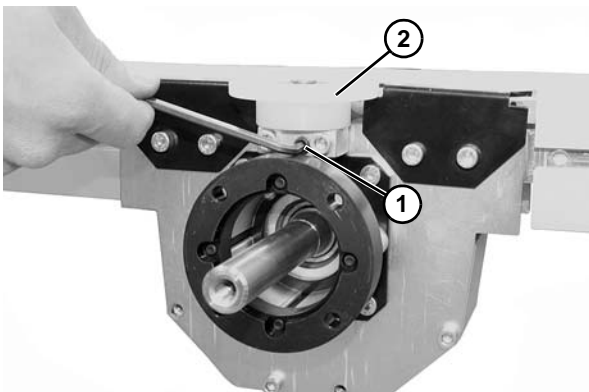

Figure 139
2. Loosen set screw (Figure 139, item 1) and remove belt hold down wheel (Figure 139, item 2).